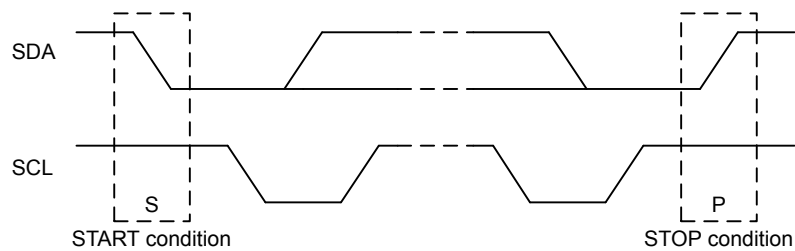

Figure 17.4. I²C START and STOP Conditions
START and STOP conditions are used to initiate and stop transactions on the I²C-bus. All transactions on the bus begin with a START condition (S) and end with a STOP condition (P). As shown in Figure 17.4 I²C START and STOP Conditions on page 480, a START condition is generated by pulling the SDA line low while SCL is high, and a STOP condition is generated by pulling the SDA line high while SCL is high.